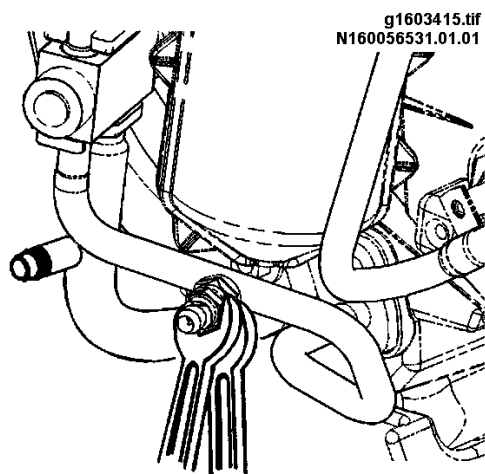

Figure 37 Use a Back-Up Wrench When Loosening or Tightening Fittings
10. Whenever possible use a backup wrench when loosening or tightening fittings (Figure 37).